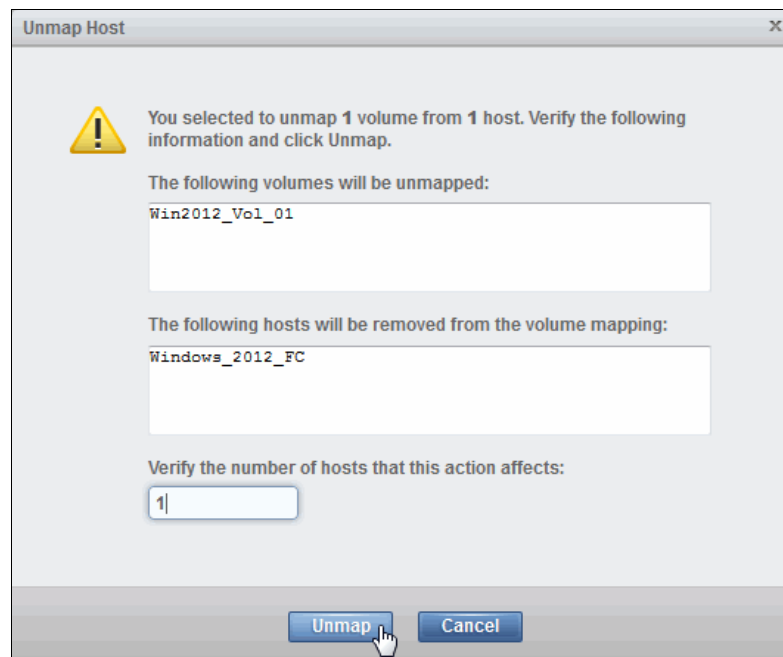

Figure 8-57 Unmap Host pane
2. Confirm the number of mappings to remove and click **Unmap**. Figure 8-57 shows the Unmap Host pane.